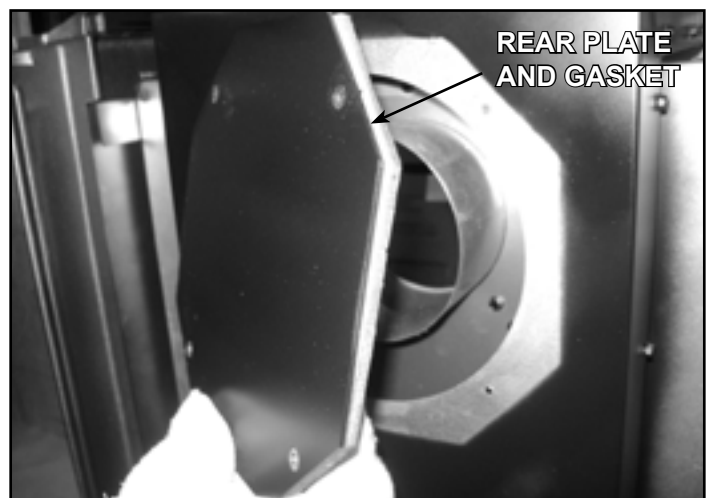

Figure 5
5. Remove rear access plate and gasket by removing four screws. Save the screws. See Figure 5.
7. Remove six screws under the rear access plate removed in Figure 5. See Figure 7. Install inner pipe adapter and new gasket (included with kit) using six screws. See Figure 8.
8. Install starting collar with gasket or high-temp sealant to rear vent opening. Attach with screws removed in Figure 5. Place grille gently into the opening on top of appliance. The grille does not have a hole and is included with the kit.